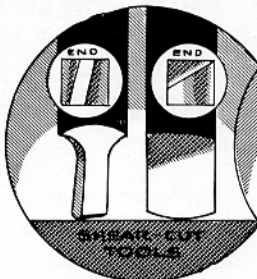
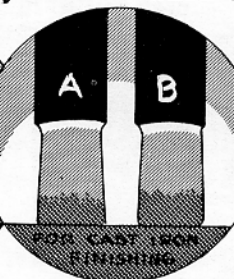

FIG. 226
FIG. 227
A tool with a rounded nose may be used to rough out both steel and cast-iron surfaces, and with slight modification may be used to produce a finish cut. Frequently, the shear-cut tool (Fig. 226) is preferred for finishing steel; whereas, a tool with a flat end shaped as in Fig. 227 is extensively used to finish cast iron.
For finishing cast iron, the tool (A) (Fig. 227) is extensively used and will give excellent results. The corners of the tool may be sharp or they may be rounded slightly as in (B).
Whenever it is desired to finish the surfaces of steel, the shear-cut tool (Fig. 226), when used with a little coolant, will produce a smooth, bright finish.